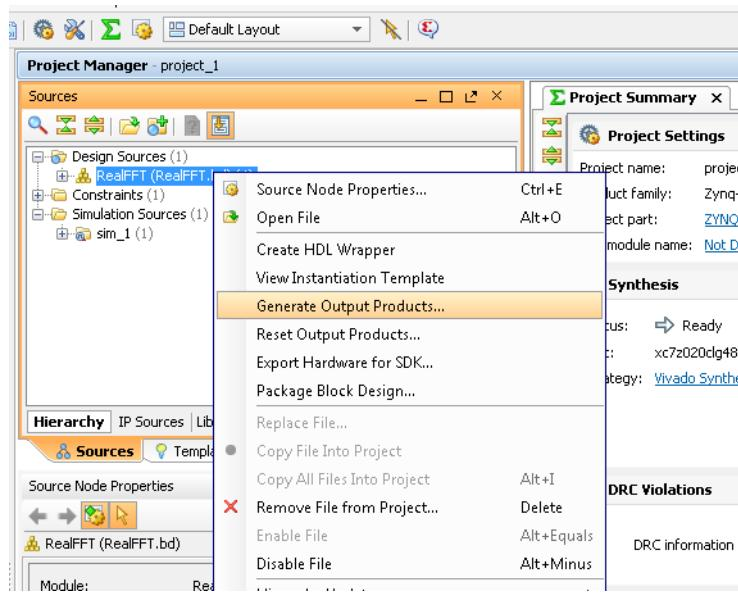

Figure 9-26: Generating Output Products
- a. In the Sources tab of Project Manager pane (Figure 9-26), right-click **RealFFT.bd** and select Generate Output Products.